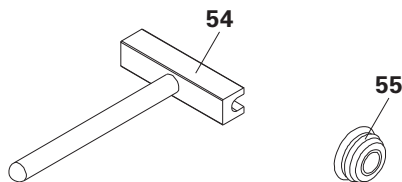

Fig. B8.02
- Tie rod wrench (54) for tie point operations is used by one worker from one side only.
- Plugs (55) for closing unused tie holes.
- (Fig. B8.02)